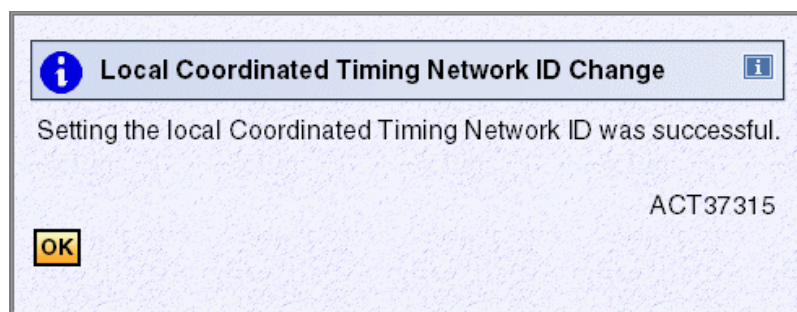

Figure 12-13 Message ACT37315 - Local Coordinated Timing Network ID Change (H40)
- Confirm by clicking **Yes**. This displays the Local Coordinated Timing Network ID Change, message ACT37315, indicating that the change was successful (Figure 12-13).